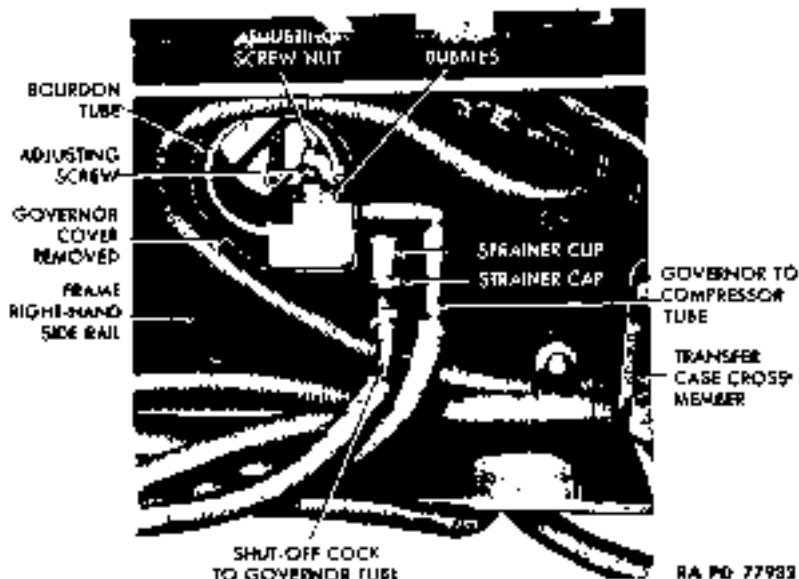

Figure 63 - Testing Air Pressure Regulator Governor With Cover Removed
b. **Maintenance and Adjustment (fig. 63).** Close shut-off cock on bracket in front of reservoir tanks, and remove shut-off cock to governor tube from governor. Screw strainer cap from strainer cup, and pull strainer from cup. Wash strainer in gasoline, then install strainer and strainer cap. Connect tube to governor, and open shut-off cock. Start engine, and observe pressures at which governor cuts out and in. If it does not cut in at 85 pounds and cut out at approximately 105 pounds, remove case cover, loosen adjusting screw nut, and turn adjusting screw clockwise to raise cut-in pressure or counterclockwise to lower cut-in pressure. Tighten adjusting screw nut, and install case cover. Allow governor to cut out, and check upper valve for leakage by covering exhaust port with snapnuts; then allow governor to cut in, and test lower port in same manner. Leakage of a 3-inch bubble in 3 seconds is permissible. In case of excessive leakage, replace governor (subpar. d, below). Remove case cover, and lubricate valve stem with a few drops of penetrating oil.